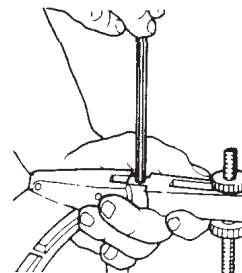

Figure 5
1. **Disassemble the Miter Gauge.** Using a 5/32" Allen wrench, remove the hold-down assembly from the miter gauge, see Figure 5. Loosen the grip stud with an Allen wrench through the hole in the stud. Remove the screw in rear of the safety grip. Then remove the safety grip